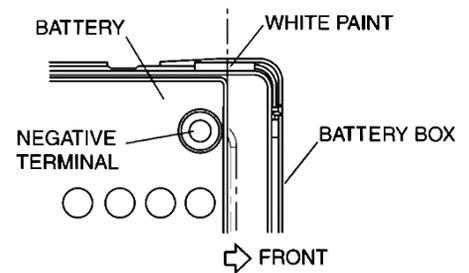

Fig. 2 Battery installation
1. Install 50D20L and 55D23L battery within area of white paint mark on battery box, **Fig. 2**.